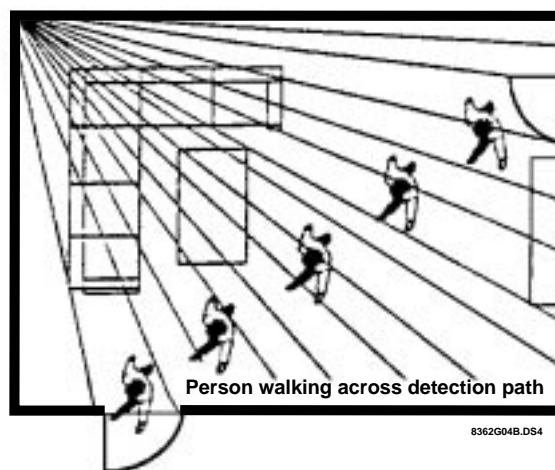

Figure 1. Overhead (Bird's Eye View) Detection Path
3. Position the sensor to protect an area where an intruder would be most likely to walk *across* the detection pattern (see Figure 1).